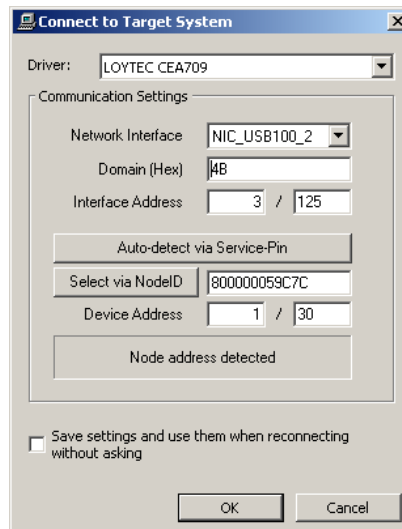

Figure 54: Connect via CEA-709
- **CEA-709:** Select the network interface to use and fill out all other fields, see Figure 54. Alternatively, select the network interface and press Auto-detect via Service-Pin. Then press the service pin on the device. Note that this connection method requires an installed LOYTEC network interface.